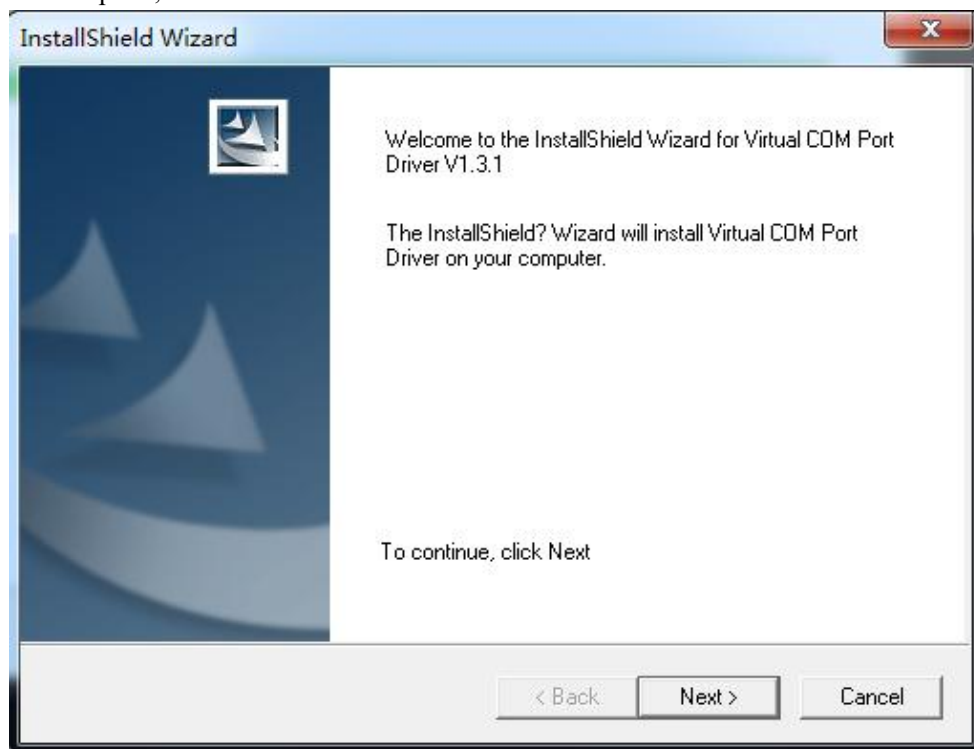
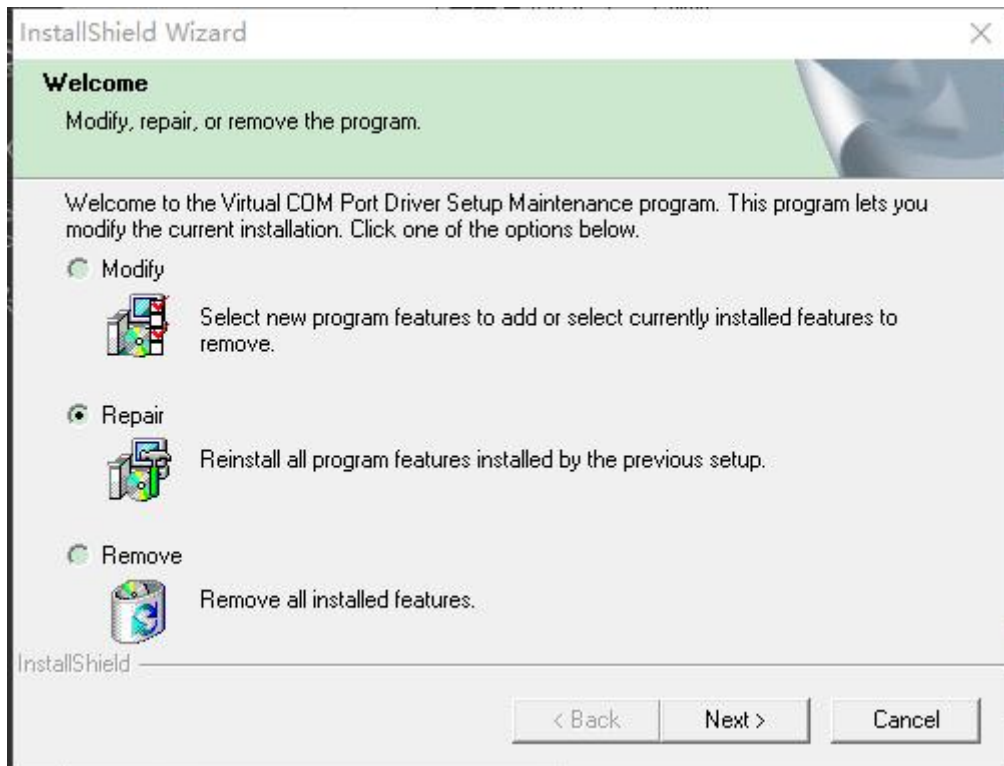

Figure 9
Figure 12
3.1.9 Install the driver, click "Next", click "Next", and then click "Finish", as shown in Figure 9, 10, and 11. If the system has already installed the driver, the page of Figure 9 will display Figure 12, select "Repair", and then click "Next".